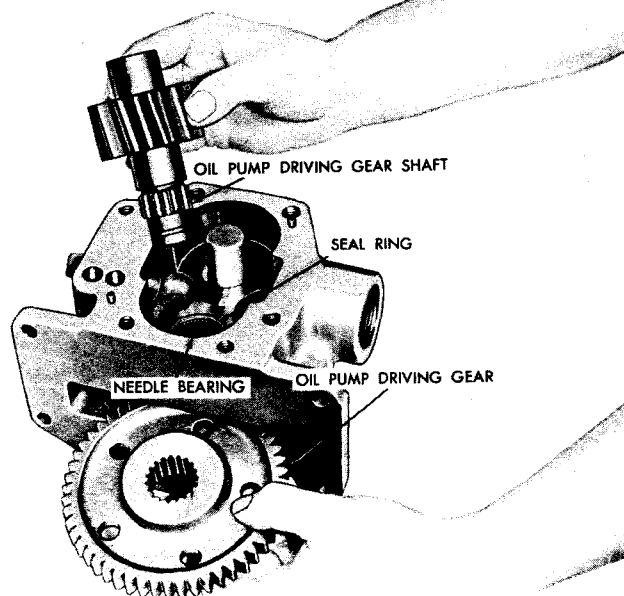
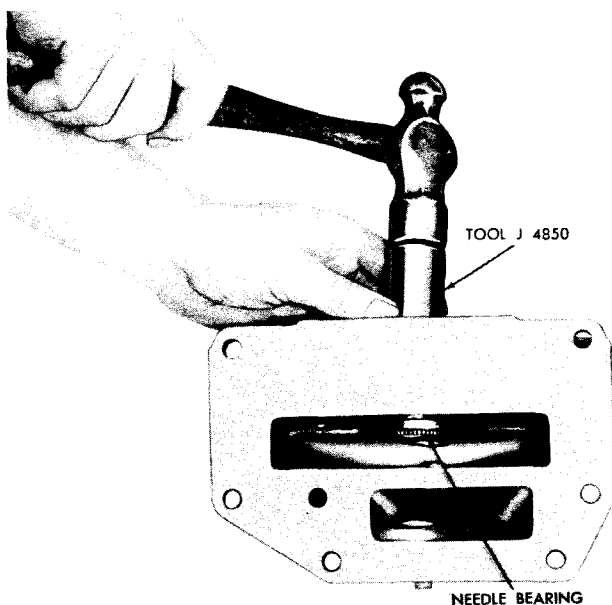

Fig VI-49. Removing (or installing) oil pump driving gear and shaft
Fig VI-50. Removing needle bearing from oil pump body
(7) Remove the oil pump driving gear shaft (fig. VI-49).
(8) Remove the driven gear needle bearing only if replacement is necessary. When replacing, press the bearing out of the gear.
(9) Remove the seal ring and needle bearing that supports the driving gear shaft in the pump body only if replacement is necessary (fig. VI-49). When replacing, use tool J 4850 (fig. IV-1) and press or drive the seal ring and bearing out of their bore into the pump driving gear pocket in the pump body (fig. VI-50).
(5) Press new driven gear shaft (28) into the pump body, if the shaft has been removed.
(6) Install hook-type seal ring (18) on driving gear shaft (15).
(7) Place the driving gear in its pocket and install the driving gear shaft in the pump and through the driving gear (fig. VI-49). The seal ring should slip easily into the bearing sleeve because the sleeve is beveled to receive the seal ring.